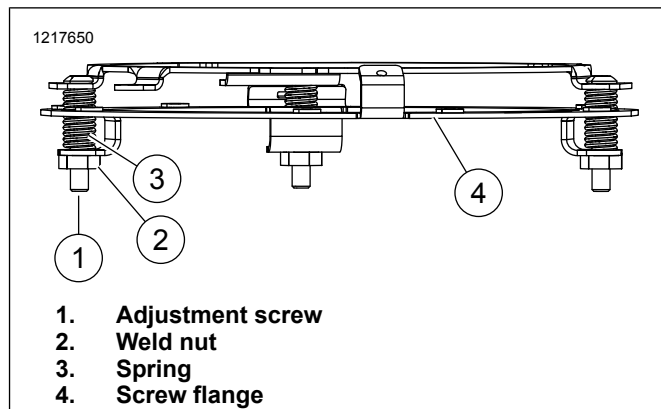

Figure 1. Installations with Mounting Ring (Typical)
2. See Figure 1. For all installations with mounting rings, set initial clearance behind headlamp by rotating the three adjustment screws (1) until about 3/8 inch of the springs (3) are exposed above assembly's screw flange (4). Ensure full weld nut (2) thread engagement with adjustment screws (1) before and after headlamp installation and aiming.